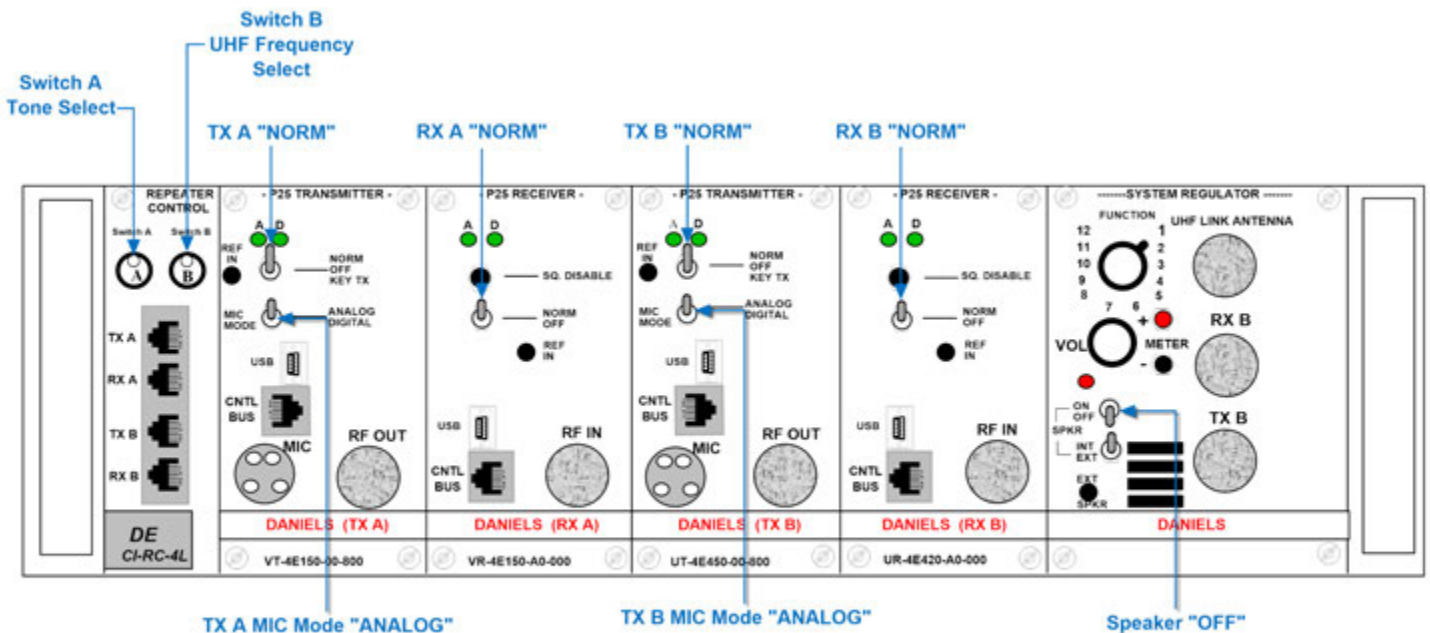

Figure 4:
- **See the Tone Selection List on page 129. "Straight UP" is Position 1. (See Figure 4)**
- **See the UHF Frequency Selection List on page 129. "Straight UP" is Position 1. (See Figure 4)**